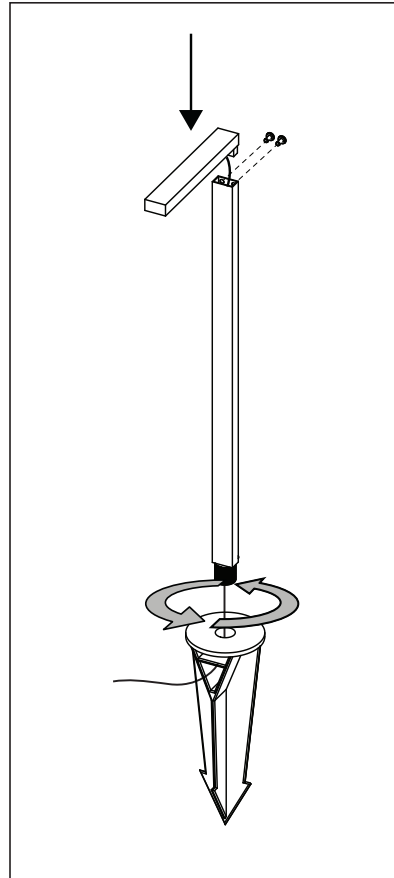

Fig. 3
1. Assemble as shown in Fig. 3.